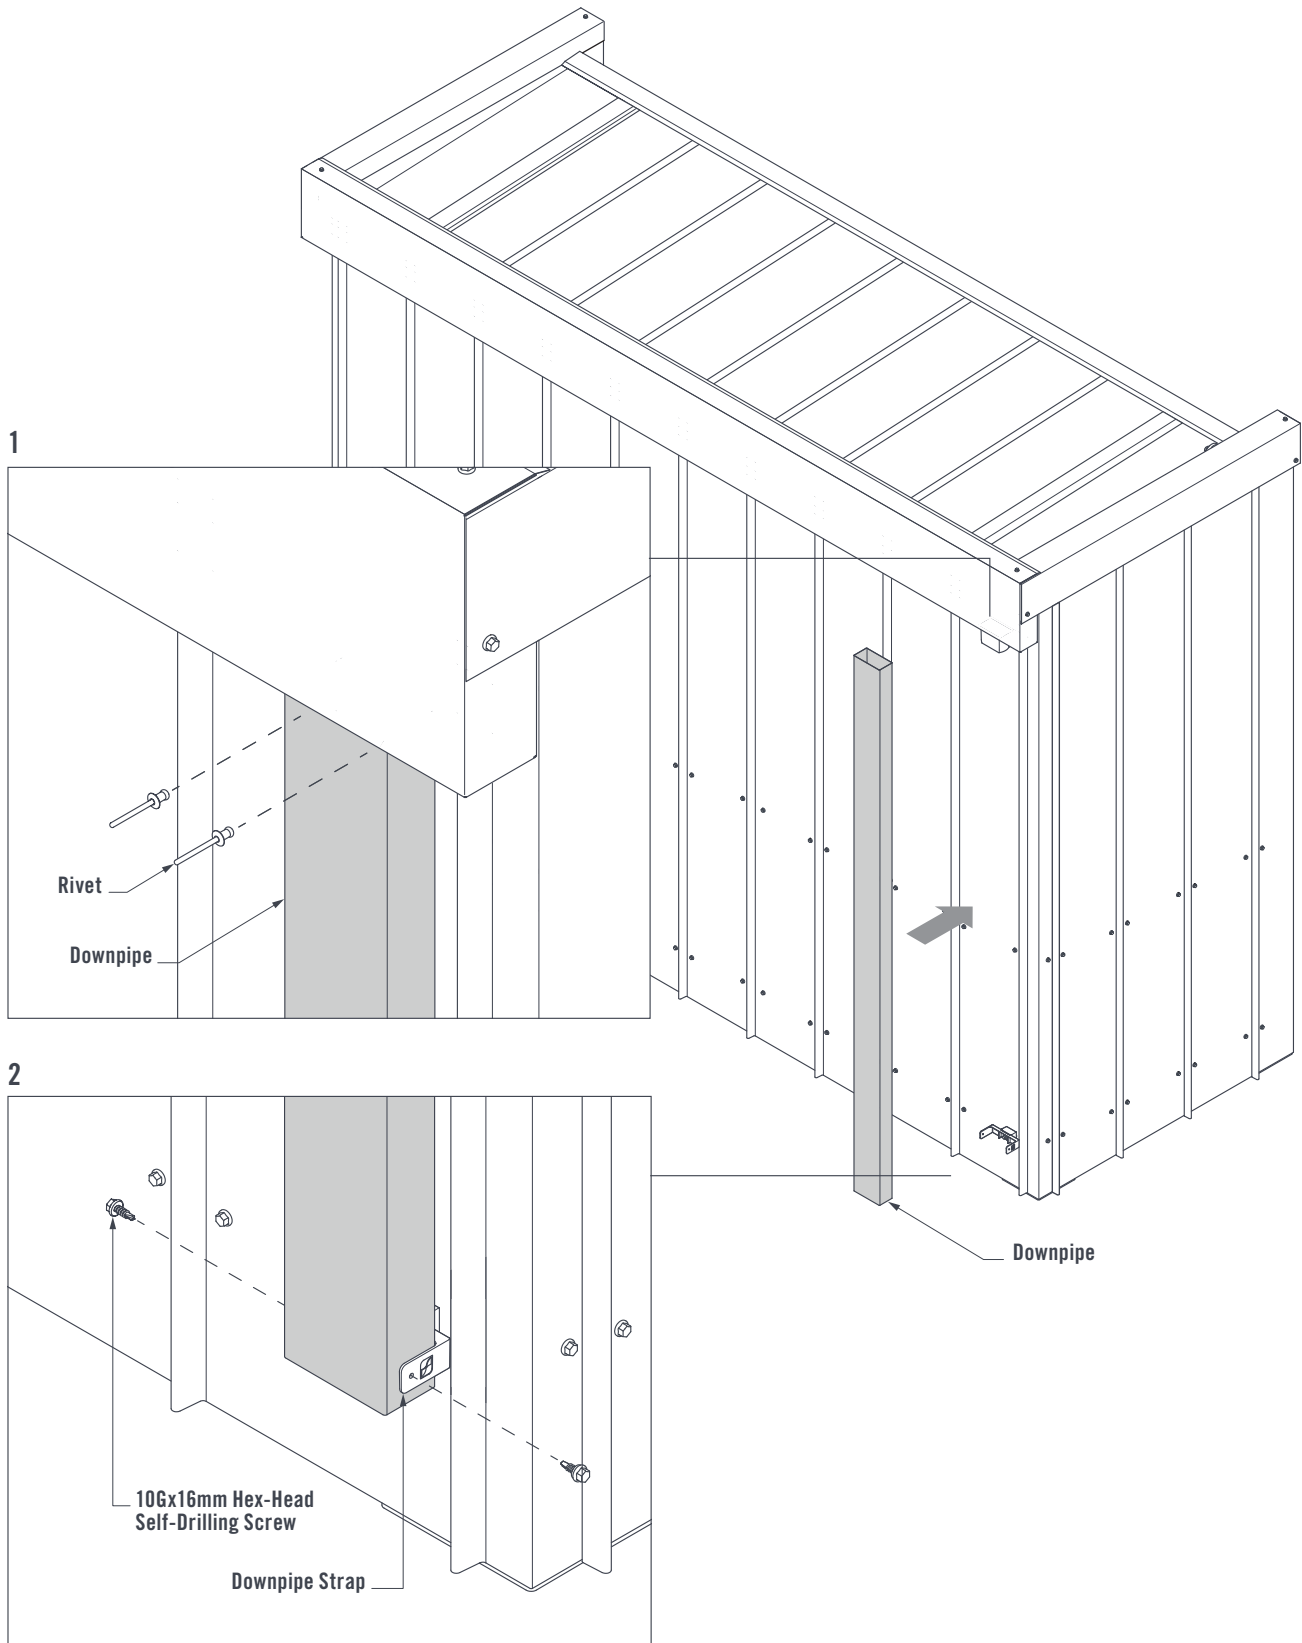

FIGURE 8.3
- 2) Fasten the Downpipe to the Downpipe Strap using two 10Gx16mm Hex-Head Self-Drilling Screws (Figure 8.3).